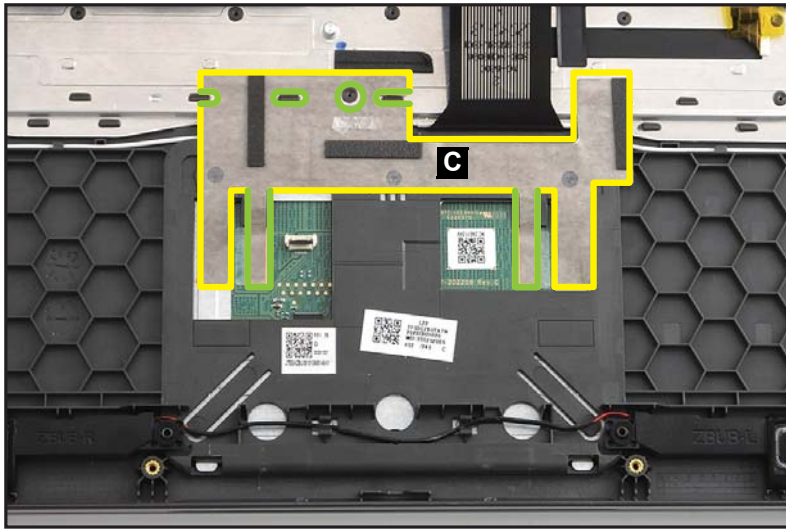

Figure 1-11. Touchpad Module Removal
3. Gently peel off the conductive tape (C) to detach it from its designated slot on the touchpad module and top assembly (Figure 1-11).